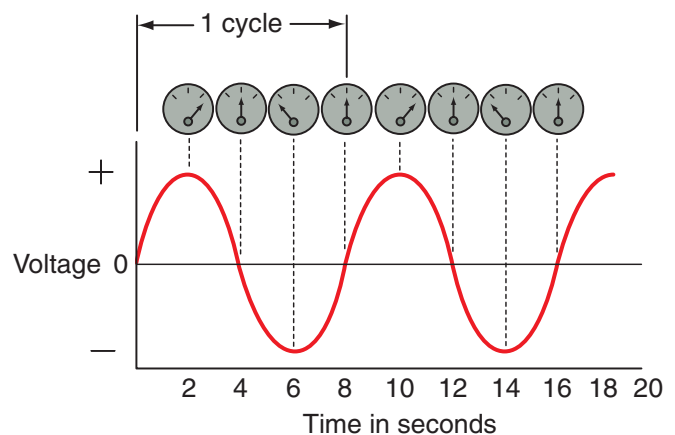

Figure 13-13 An AC voltage level changes over time.
In contrast to DC, alternating current (AC) is the flow of electrons first in one direction and then in the opposite direction. AC reverses direction continually and is produced by an AC voltage source. AC is the type of current found in household electrical systems and wall outlets. Power equipment engines also produce AC in various ways. (We'll discuss AC in more detail in Chapter 14.) As you see in Figure 13-13, AC starts at zero and then rises to a maximum positive value. At the maximum positive point, the current reverses direction and falls back to zero and continues to drop until it reaches the maximum negative value. The current then reverses direction again and rises back to zero. One complete transition of current from zero to the positive peak, down to the negative peak, and back up to zero is called a cycle. These AC cycles repeat continuously as long as the current flows.